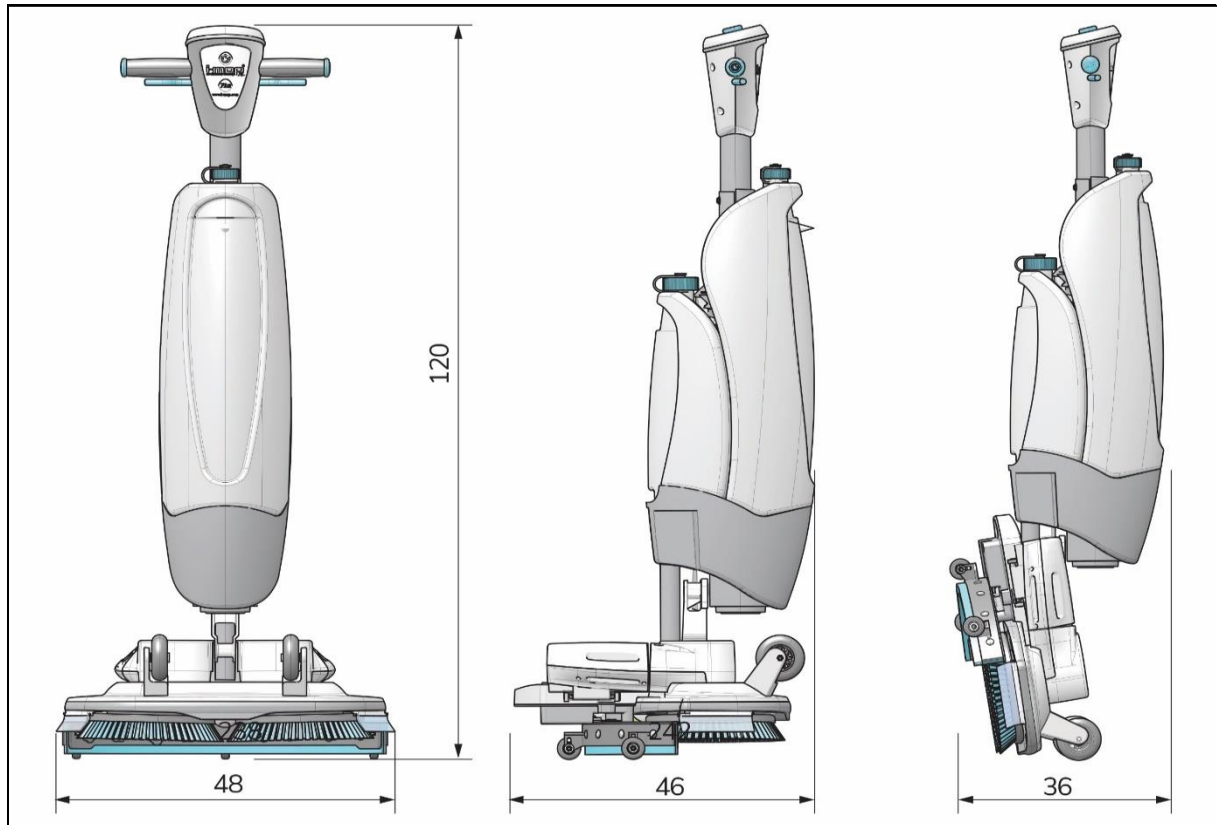

Figure 7
5. Carry the i-mop XL/XXL with one hand while holding the handle (Figure 7, pos 1) with your other hand.